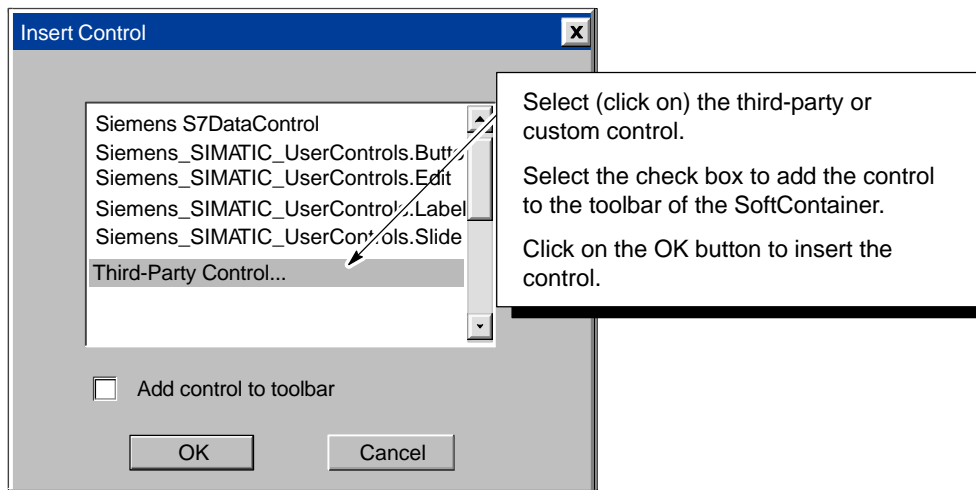

Figure 6-4 Inserting a Third-Party Control into the Process Form
2. As shown in Figure 6-4, select the custom or third party control to be added to the process form. (You can add the control to the toolbar of the SoftContainer by selecting the “Add control to toolbar” check box. This allows you to use the icon in the toolbar for inserting the control into the process form.)